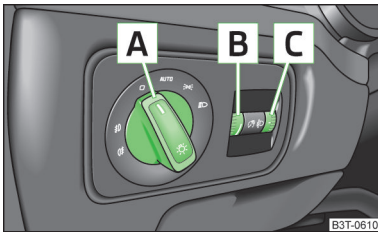

Fig. 48
The arrangement of the controls right-hand drive models may differ from the layout shown in » Fig. 48 on page 66. The symbols which mark the positions of the controls are identical.
Light switch positions - turning the switch **A** » Fig. 48
Turning the knob **B** » Fig. 48
Turning the rotary switch **C** when the lights are switched on adjusts the brightness of the instrument lighting » Fig. 48 .
- ✓ The light switch is in the position 0 or **AUTO** » Fig. 48 on page 66.